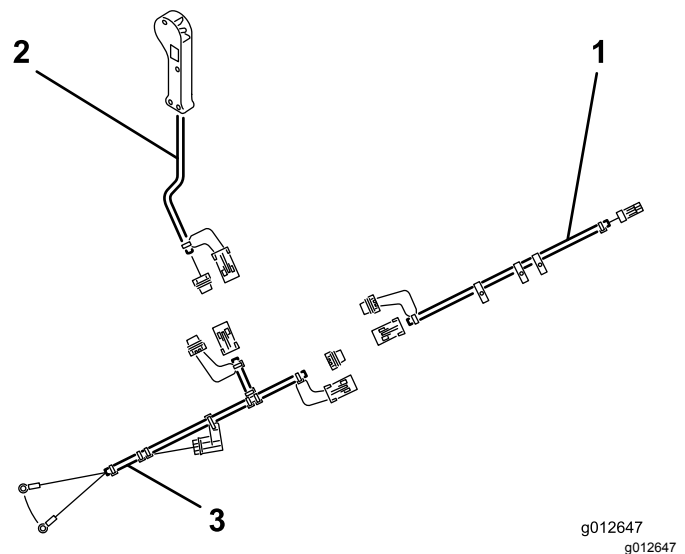

Figure 8
1. Plug the connector of the topdresser wire harness into electrical connector on solenoid valve of the machine (Figure 8).